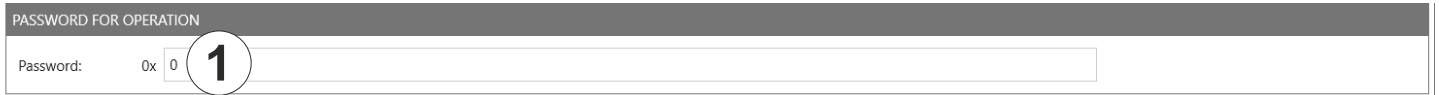

Fig. 57: TestGen2: password for operation
①	Memory bank	enters the selected memory bank
②	Memory address	enters the address within the memory bank
③	Data	enters data to write in the hexadecimal format
④	Data (UTF8)	enters data to write in the UTF8 format
⑤	Data mask	enters the data mask The data mask allows only individual bits on the tag to be changed.
⑥	Write data to selected tag	writes data to the selected tag in the field
⑦	Write masked data to selected tag	writes the masked data to the selected tag
⑧	Write data to all tags	write data to all tags in the field <div style="border: 1px solid gray; padding: 5px; margin-top: 10px;"> ► If the data are written to all tags in the field, make sure all the tags have the same configuration (lock and password).</div>
⑨	Write masked data to all tags	writes the masked data to the all tags in the field
To change the password, enter the current password at ① in Fig. 57, p. 92. If no password has yet been set, the default value is 0.